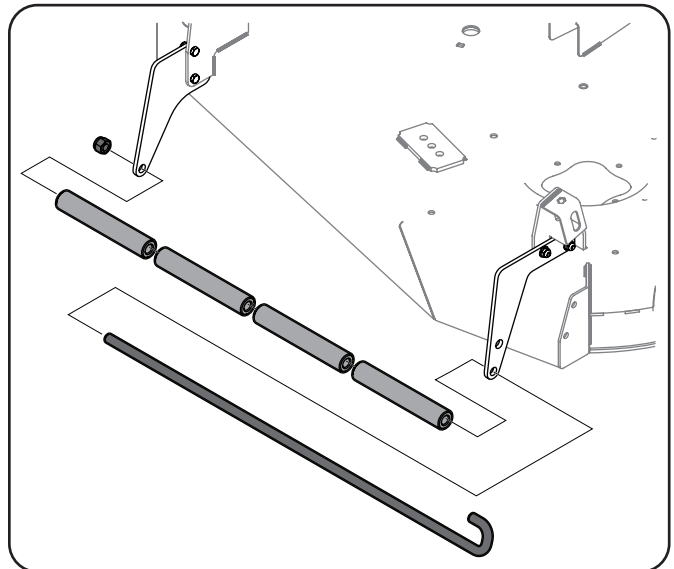

Figure 1-16
3. Align the four Rollers (#5) inside the brackets and slide the Roller Pin (#2) through the center of the rollers and into the mounting hole of the Right Roller Bracket (#7), ensuring that the J-hook end of the pin is secured in the bracket's mounting hole. See Figure 1-16.
4. Secure the end on the Roller Pin with a 1/2 Lock Nut (#4). See Figure 1-16.